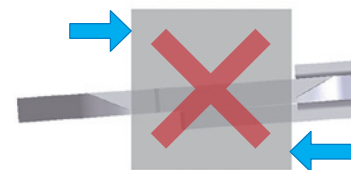

Fig. 6
3. Avoid cosine error by rocking and/or rotating the caliper to ensure measurement faces are contacting completely and are not tilted. (Fig. 6)